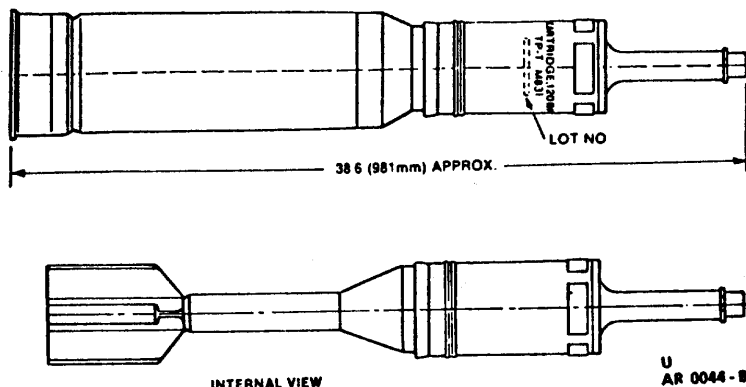

Figure 4. Cartridge, 120mm: TP-T, M831.
e. Description for Cartridge, 120mm: TP-T, M831 (fig. 4).
(1) The M831 cartridge external appearance is identical to that of the M830 HEAT-MP-T service round. Internally the round does not contain any explosives, shaped charge liner base fuze or nose cap. The round consists of a steel body with aluminum spike and copper obturator, in addition to a fin and boom assembly with tracer. The complete round propellant system comprises a stub metal case with combustible sidewall and M123A1 primer. The propellant is a single perforated stick propellant and is bagged with additional segments fitted over each fin.
(2) The propellant system utilizes a metal cartridge case with a rubber obturator at the stub case mouth, M123A1 primer, and a combustible wall which encapsulates stick propellant within six containment devices to prevent spillage should breakage or separation occur.
(3) The weight of the complete cartridge is approximately 53.4 pounds (24.2 kg) with the approximate weight of the projectile being 30 pounds (13.5 kg).